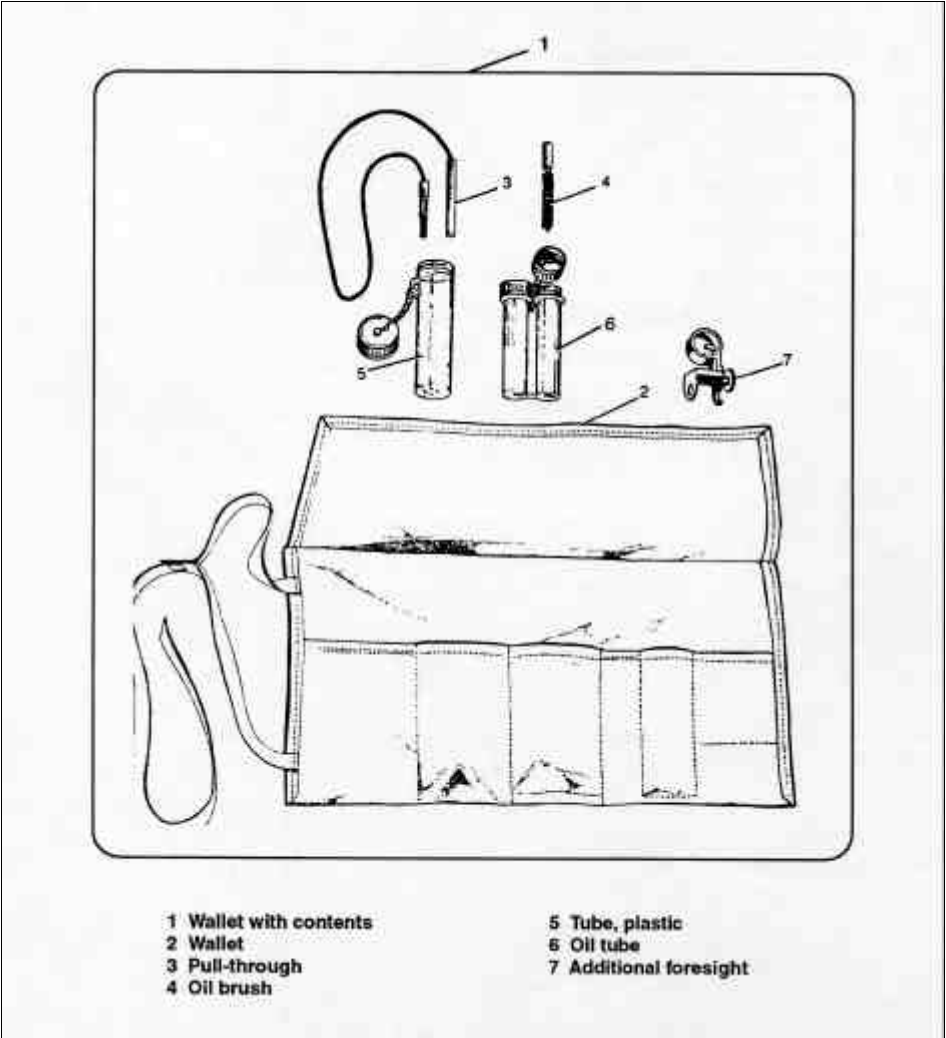

Figure 2-10-2 Cleaning Tools
- (1) if it is not set at "F" set to "F", reload and continue the engagement, and
- (2) if set to "F" remove the device, pass to the No 3, reload with another device and continue the shoot. The No 3 will unprime the device.
- a. After firing practices, the sub-calibre adapter must be cleaned. The tools shown in Figure 2-10-2 are provided for this purpose.